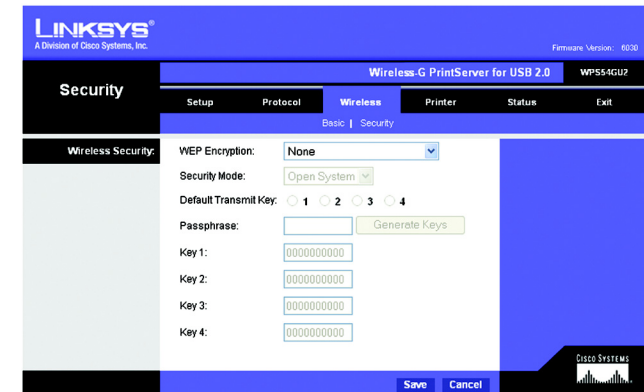

Figure B-2: Wireless Tab - Security
2. Click the **Security** tab. See Figure B-2.